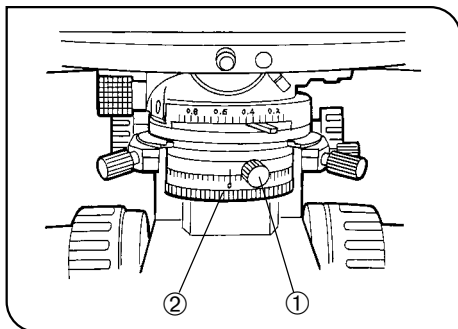

Fig. 30
(Fig. 30)
2. Insert the rotatable analyzer into the light path and set vibration direction scale at the 0° position. Clamp with the clamping knob. (Fig. 30)
4. Loosen the polarizer clamping knob ①. Rotate the polarizer rotation dial ②, until complete extinction is obtained. At this point, tighten the clamping knob ①. (Fig. 30)